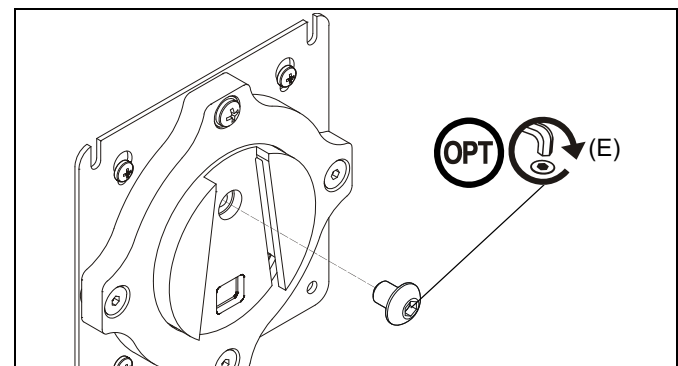

Figure 14
NOTE: (Optional) Rotational adjustment may be locked by installing rotational locking screw (E) into back of faceplate. (See Figure 14)